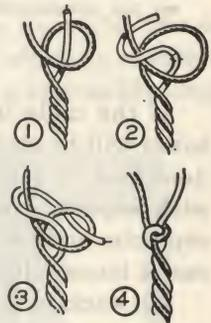

Fig. 13-9. An Underwriters' knot is easy to make.
**Drop Cords:** Today drop cords are little used. If you have need of one, remember the Code requirement of an Underwriters' knot at each end of the drop cord, as shown in Fig. 13-9. This puts the mechanical strain on the entire assembly of copper plus insulation, instead of on the copper only. The Underwriters' knot should also be used on the ends of any portable extension cord.